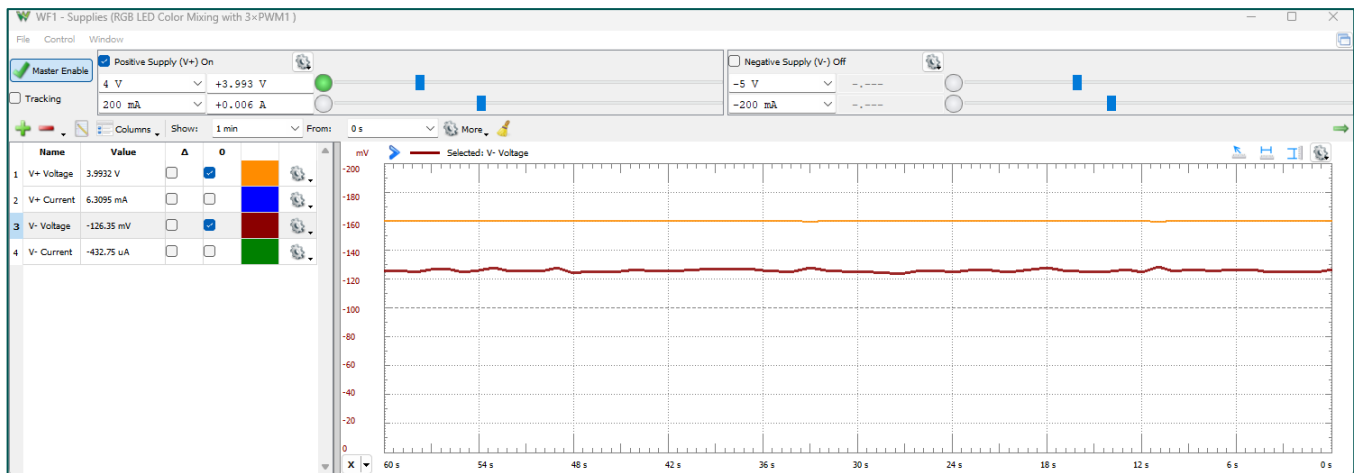

Figure 4d. Analog Discovery Studio MAX – Power Supply Monitoring and Output Configuration
- Use the **WaveForms Supplies** interface (Figure 4d):